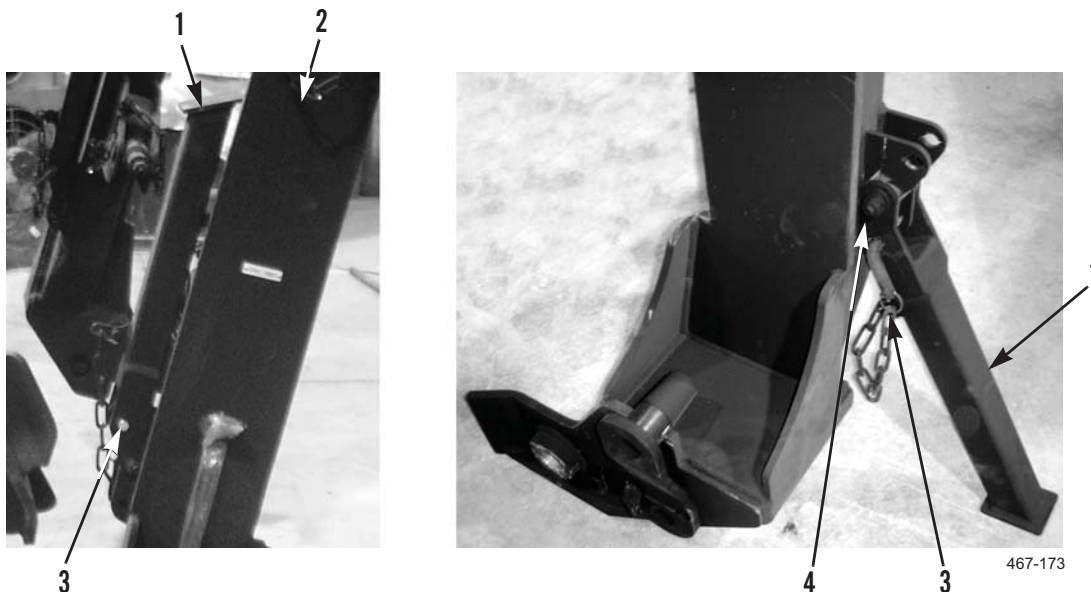

Figure 14. Deploy Stands.
2. With stand (Figure 14, Item 1) in upright position on lift frame (Figure 14, Item 2), remove locking pin (Figure 14, Item 3) from stand.
3. Rotate stand (Figure 14, Item 1) down until hole in stand aligns with hole in lower bracket (Figure 14, Item 4) and insert locking pin (Figure 14, Item 3).